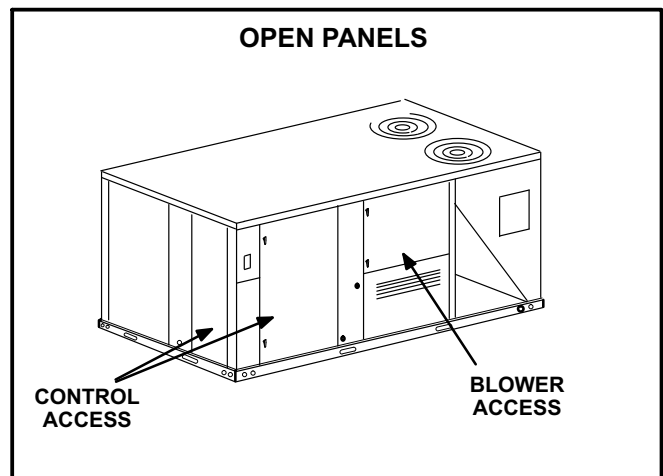

FIGURE 1
- 2- Open blower access panel. See figure 1.